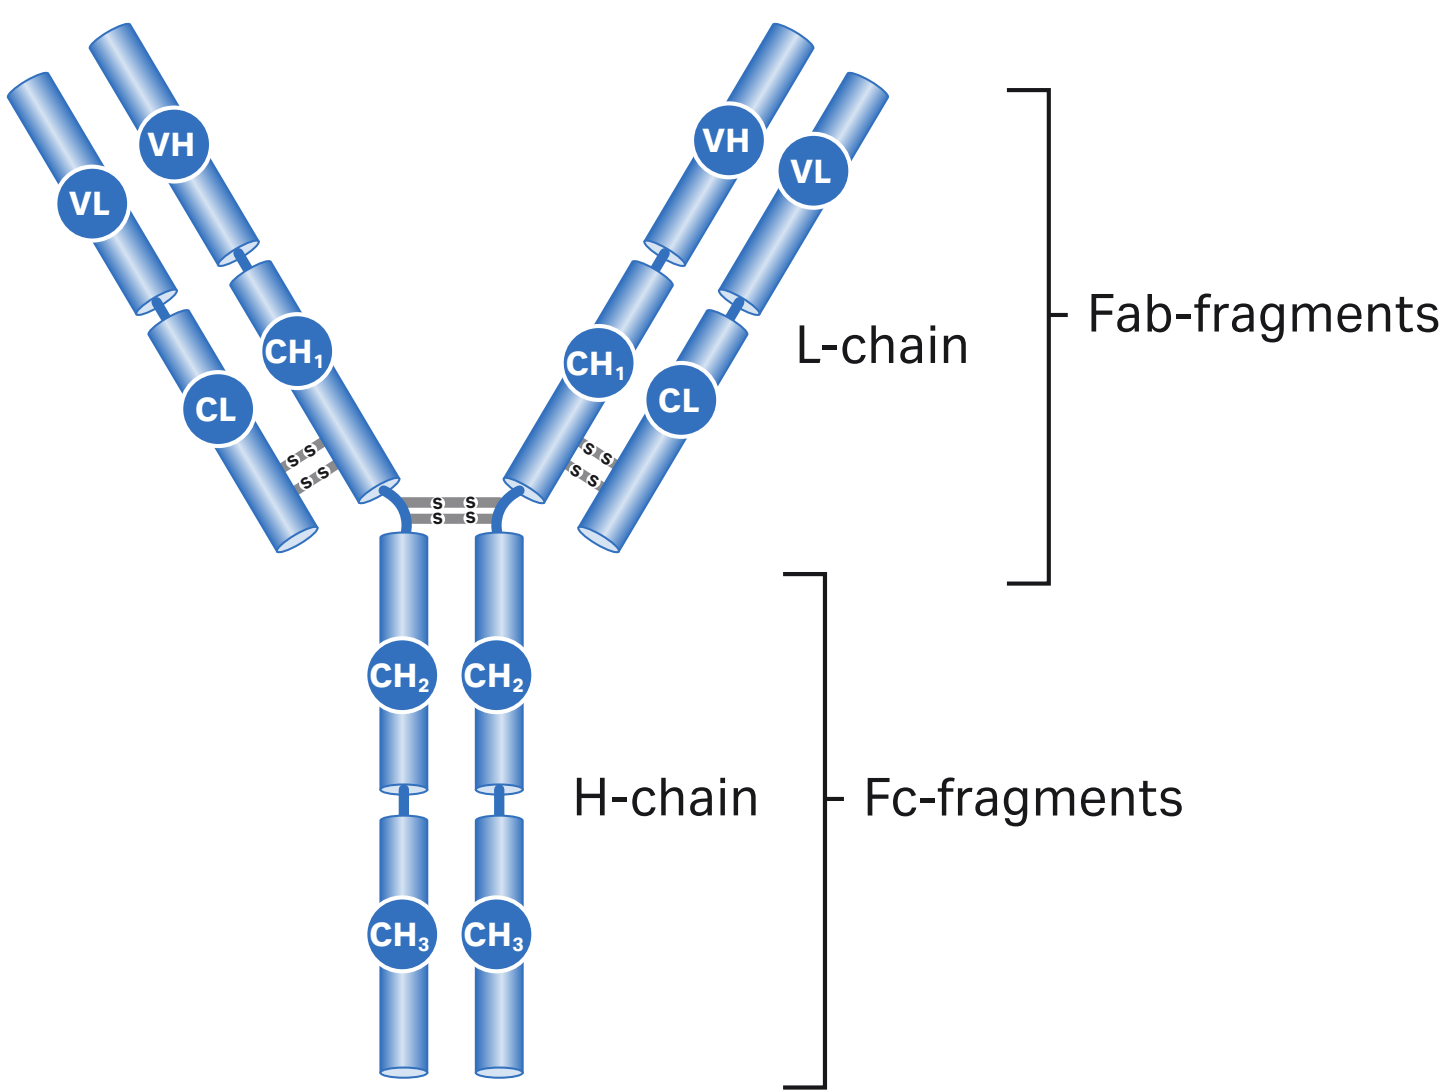

Fig 1.1. Basic H2L2 structure of a typical immunoglobulin.
All immunoglobulins, independent of their specificity, have a common structure with four polypeptide chains: two identical heavy (H) chains, each carrying covalently attached oligosaccharide groups; and two identical, nonglycosylated light (L) chains. A disulfide bond joins a heavy chain and a light chain together. The heavy chains are also joined to each other by disulfide bonds. These disulfide bonds are located in a flexible region of the heavy chain known as the *hinge*, a region of approximately 12 amino acids that is exposed to enzymatic or chemical cleavage. Each globular region formed by the folding of the polypeptide chains as a result of the disulfide bonding is termed a *domain*. All four polypeptide chains contain constant (C) and variable (V) regions, found at the carboxyl and amino terminal portions, respectively. Heavy and light chains have a single V region. Heavy chains contain three C regions while light chains possess a single C region. The V regions of both heavy and light chains combine to form two identical antigen binding sites (the parts of the antibody which bind the antigen). Effector functions of antibodies, such as placental transport or antigen-dependent cellular toxicity, are mediated by structural determinants within the Fc region of the immunoglobulin. Figure 1.1 illustrates the basic H2L2 structure of a typical immunoglobulin.